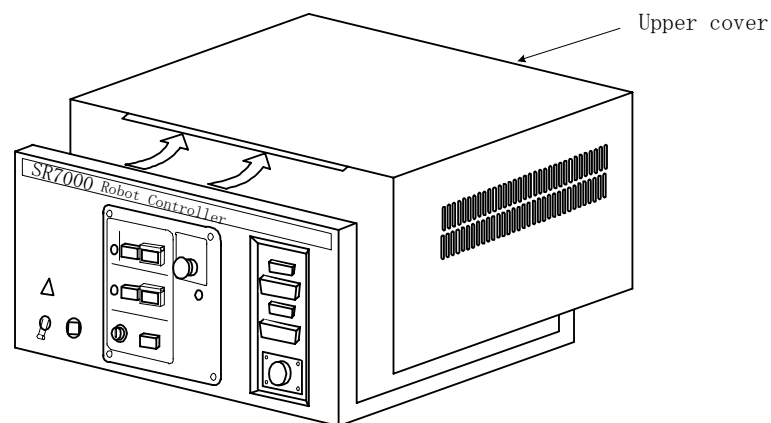

Fig. 2.21 Upper cover
- (2) The cable connectors are connected to the rear side of the controller, so provide a space of 110mm at the rear side.
- (3) The upper cover must be removed during maintenance. (See Fig. 2.21.) Keep this in mind when installing the controller. Specifically, the controller should be easily removable from the rack. Practically, be careful of the following points.